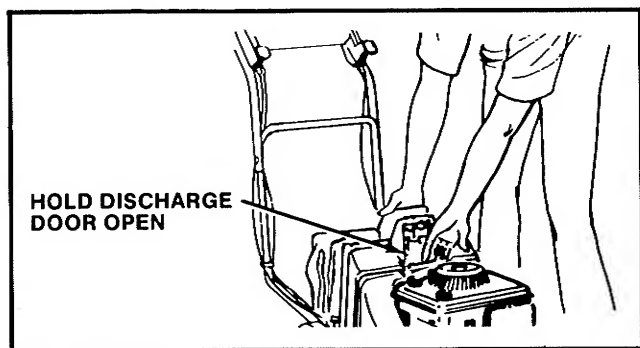

FIGURE 5
1. Hold the bag handle and the adapter handle in the same hand. (Figure 5.)
2. Open the discharge door on the mower with your other hand. (Figure 5.)